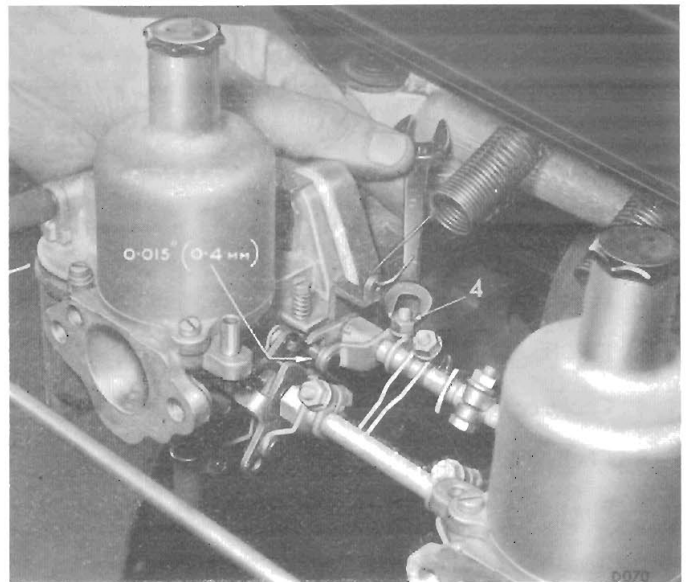

Fig. 23. Adjusting throttle spindle clamps to give clearance of peg in fork
2. Re-connect the throttle control rod (7), mixture enrichment control (3) and fuel feed pipes (8) and (9), and the return springs (4).
3. Ensure that the gaps between the spindle forks and pegs are correct by checking them as described in paragraph 7 on page 1-310 and shown on Fig. 23.
To set this clearance move each throttle shaft lever downwards in turn until the lever pin rests lightly on a .015" (.38 mm.) feeler inserted between the lever and the lower arm of the carburettor throttle lever fork (Fig. 23). Tighten the clamp bolt of the throttle shaft lever at this position. The pins on the throttle shafts should then have clearance in the forks.